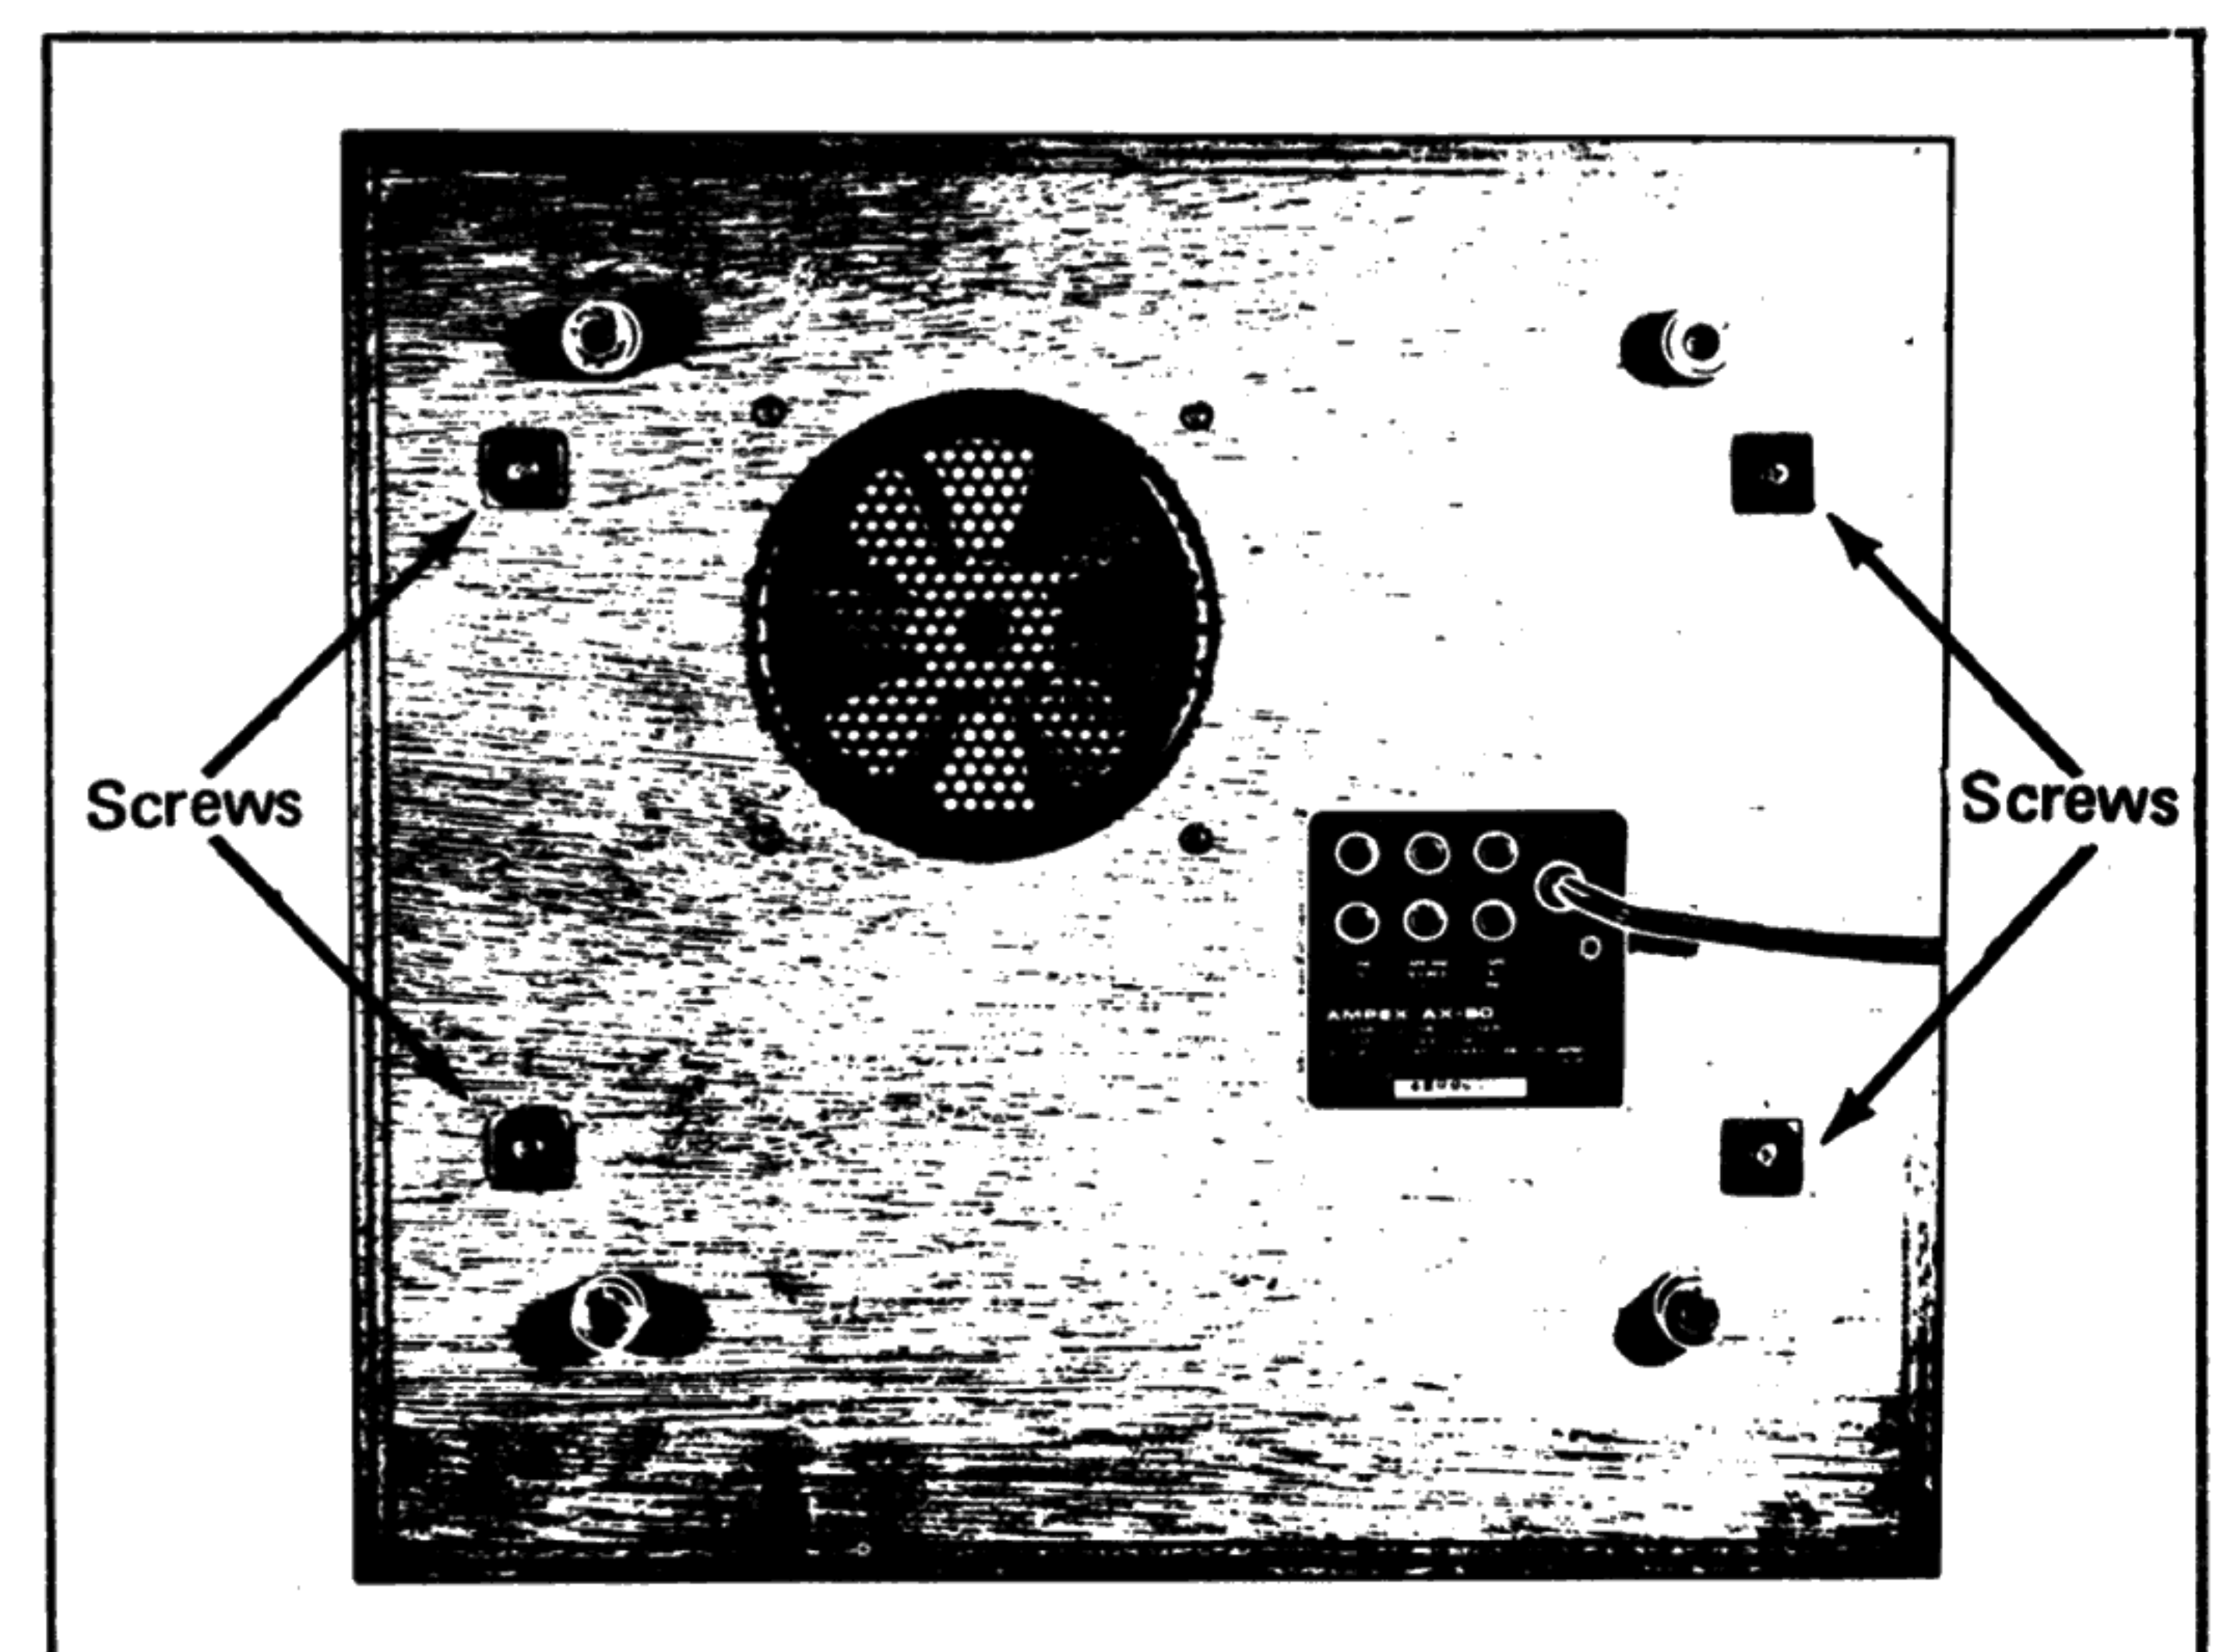

Figure 15. Screw Locations
3. Remove the four (4) front screws that hold the mechanism to the cabinet. Also remove four (4) screws from rear of cabinet. See Fig. 15.
6. Replace the four (4) screws that hold the mechanism to the cabinet, and replace cover plate and trim. Also replace the four rear screws.